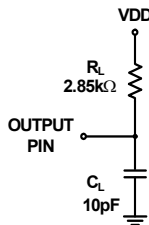

FIGURE 4. EQUIVALENT LOAD CIRCUIT
- 9. During characterization, $t_{DISABLE}$ is measured from the release point with a 10pF load (see Figure 4) and the equivalent timing using the AD7452 loading (25pF) is calculated.